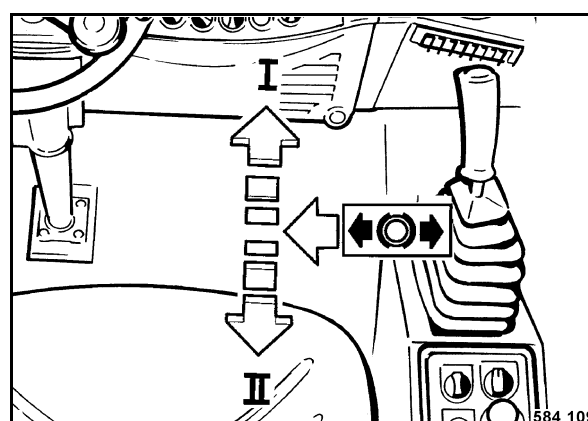

Fig. 50
- Push the travel lever (Fig. 50) to the left out of braking position and move it slowly to the desired travel direction.